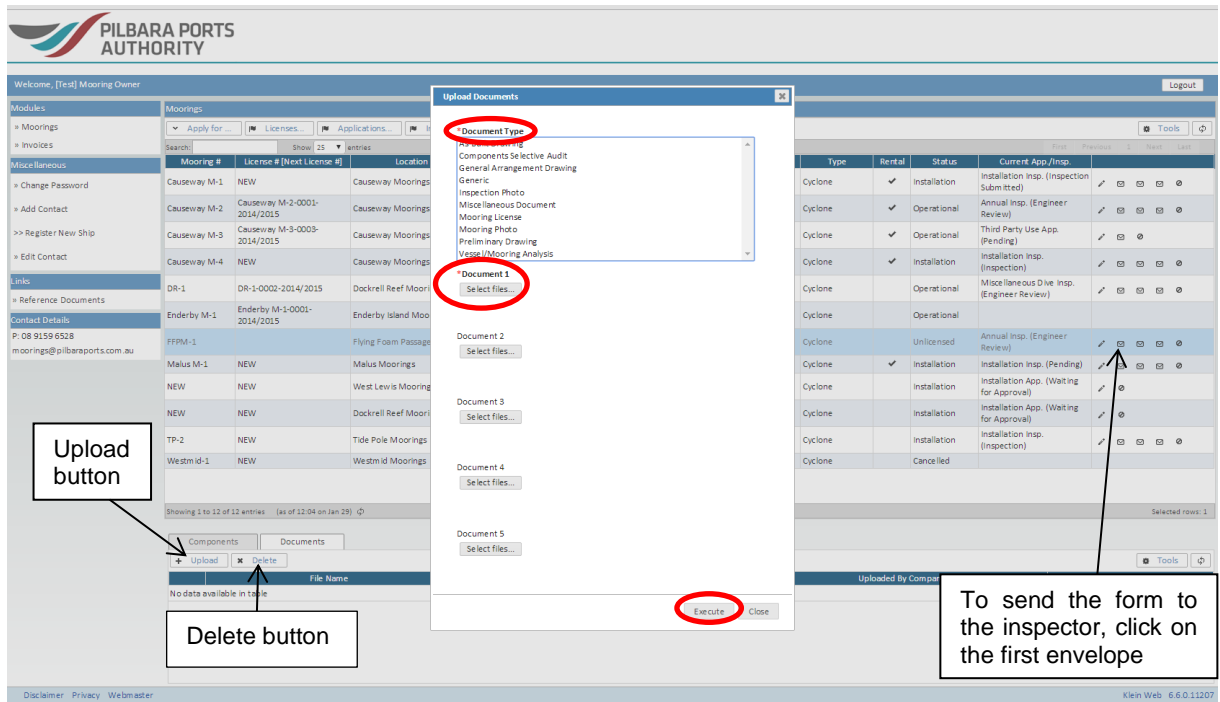

Figure 4.8
- Once the Installation Inspection is completed and the necessary documents uploaded, submit the installation to the dive inspector by selecting the first envelope (as shown in figure 4.8).